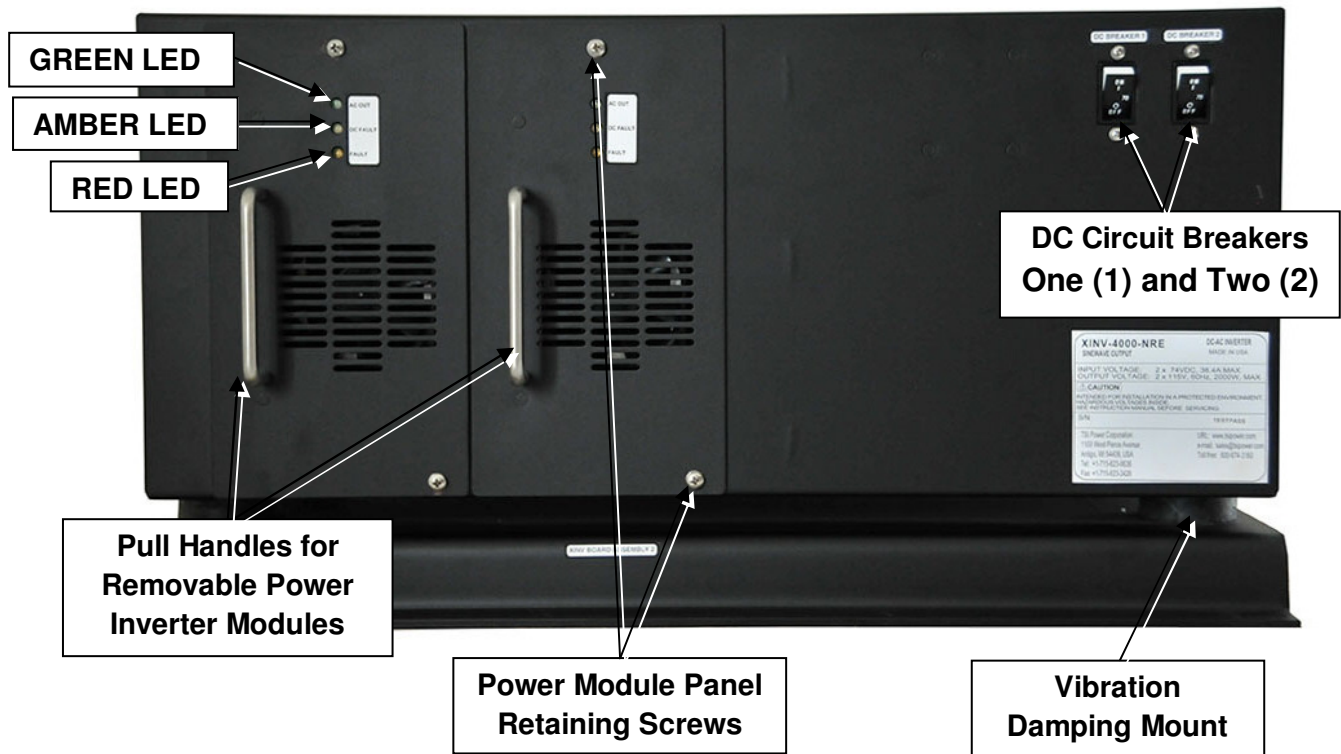
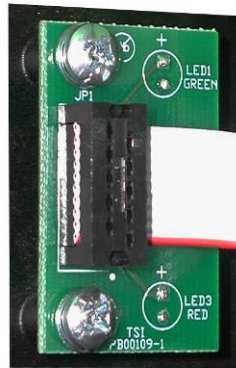

Figure 4: Front View
Figure 9: Display Circuit Board
1.62 FRONT VIEW – See Figure 4
1.63 LED INDICATORS – See Figure 4
- The display panels, pictured in Figure 4, use the circuit boards shown in Figure 9 to monitor both the output current and battery voltage to alert the user to abnormal operating condition.